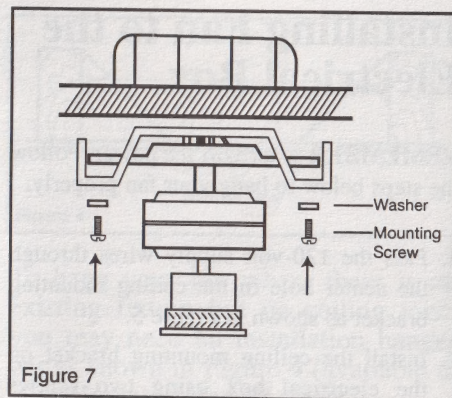

Figure 7
1. Secure mounting bar to mounting bracket with the three mounting screws and washers provided (Figure 7).